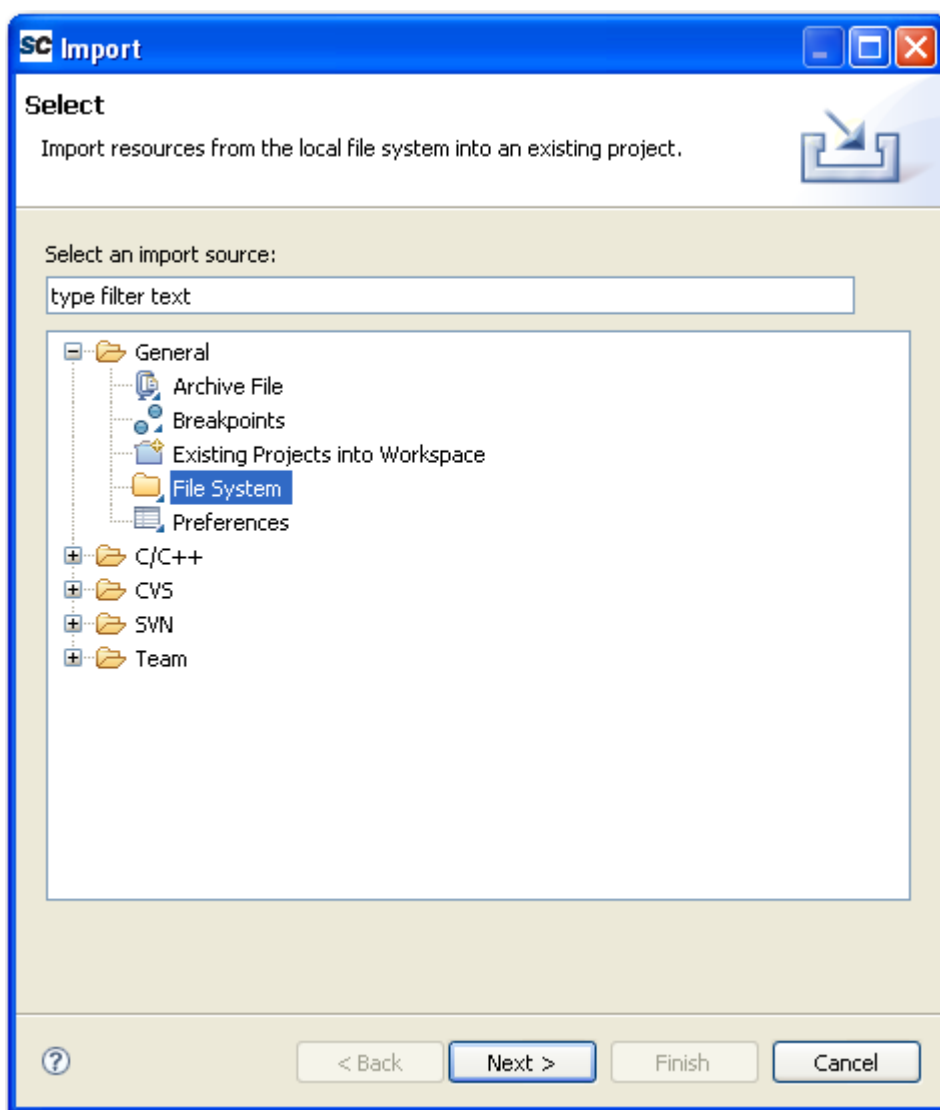

Figure 1-4 · Importing Files – Select File System
1. Choose **File > Import** from the main menu. The Import dialog box will open. Expand the General item and select **File System** (Figure 1-4).